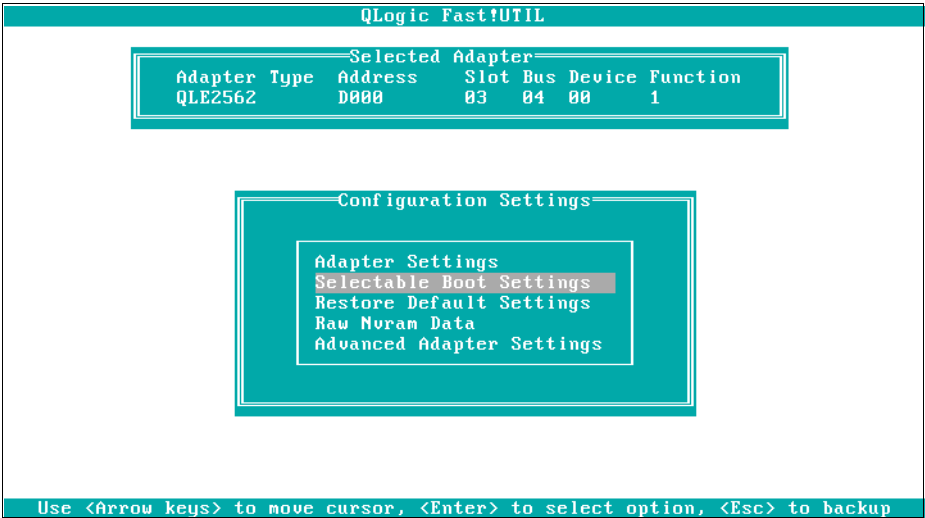

Figure 2-24 Selectable Boot Settings
3. Select **Selectable Boot Settings** as shown in Figure 2-24.